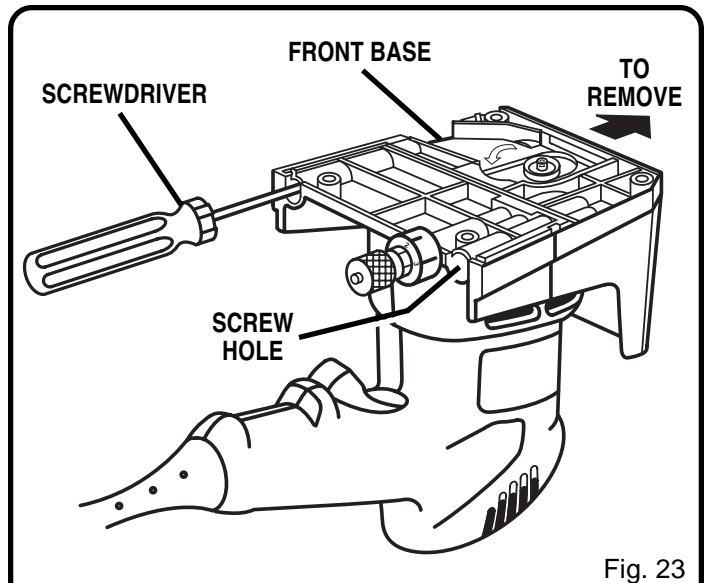

Fig. 23
- Place your biscuit joiner upside down on a workbench and remove the bottom shoe screws (4) and bottom shoe.
- With your biscuit joiner still upside down on a workbench, remove front base screws (2). See Figure 23.
- Pull front base in the direction shown by the arrow in figure 23 and remove.